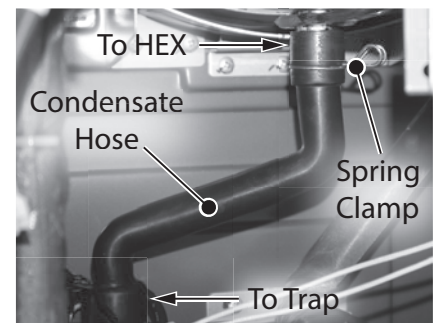

Figure 239 - Condensate hose removal
- 20 Disconnect the black hose from the top of the condensate trap and then from the back of the heat exchanger (HEX). Compress the spring clamp and pull it down along with the black hose. Remove it and dispose of properly. See Figure 239.